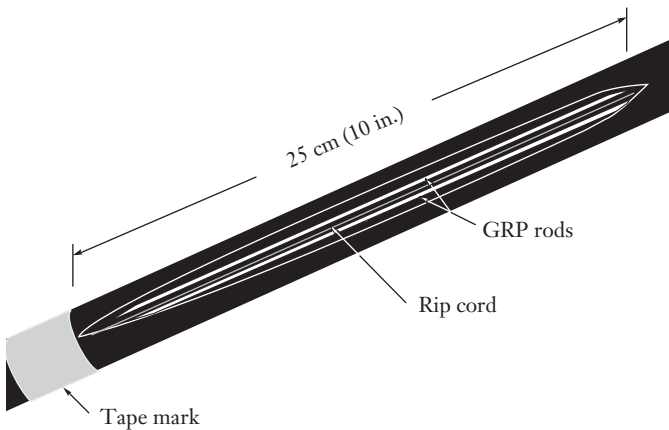

Figure 18
- b) Shave 25 cm (10 in.) of the outer sheath directly over the GRP rods (Figure 18).